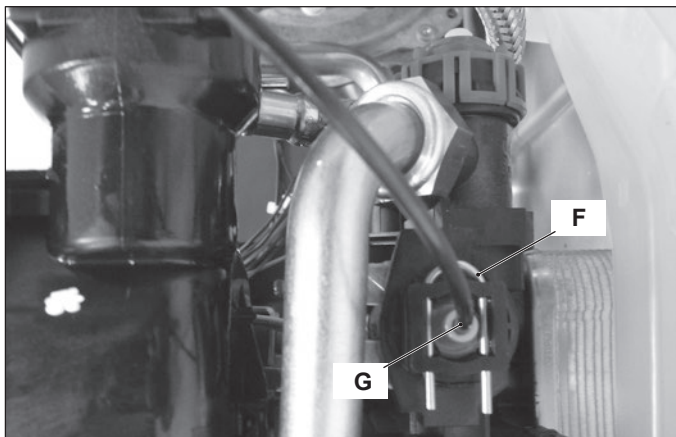

Figure 13.4
- 2 Enlarge the fork "F" and the connector "G" (Figure 13.4).